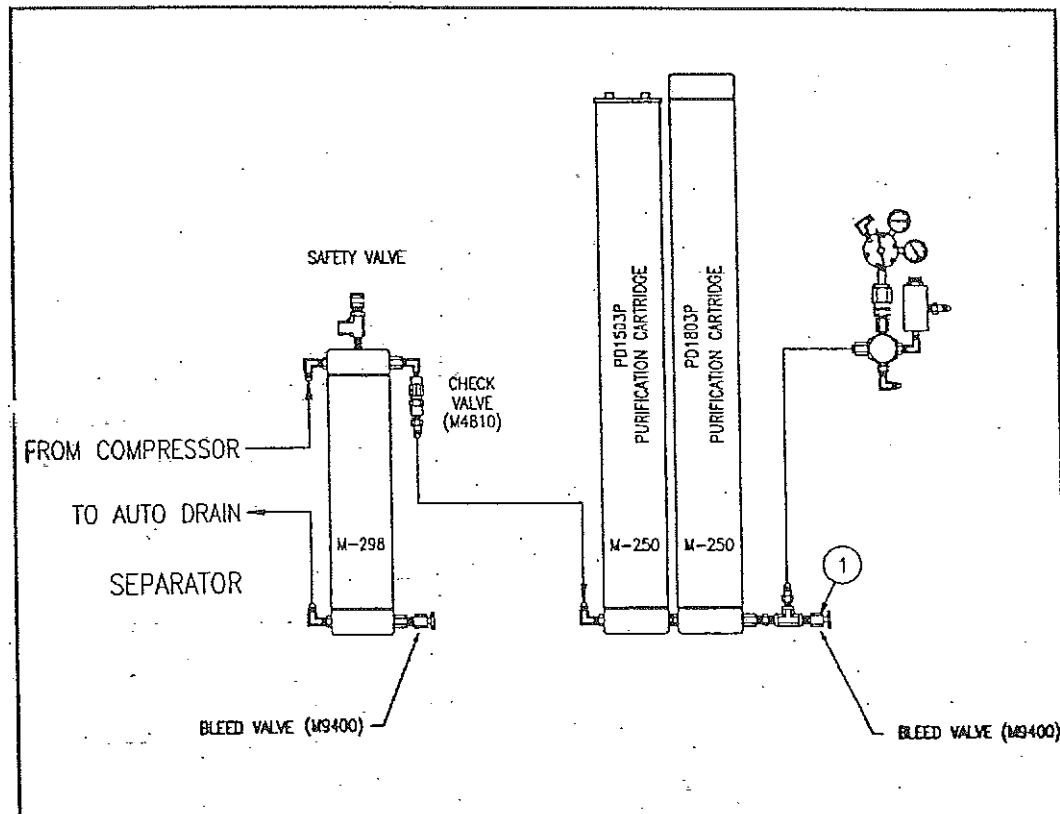

FIGURE 5-3 PURIFICATION SYSTEM COMPONENTS
2. Depressurize the system by slowly opening bleed valve (1) on the discharge of the purification system (see Figure 5-3).